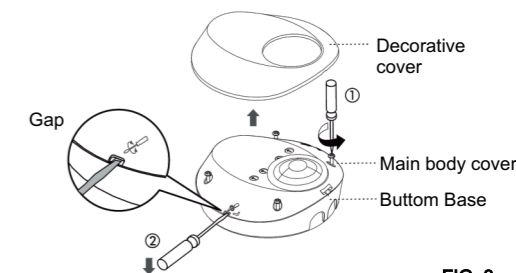

FIG. 8
3.4.1.2 Unscrew the 4 screws on main body cover to separate it from bottom base (See FIG.8).